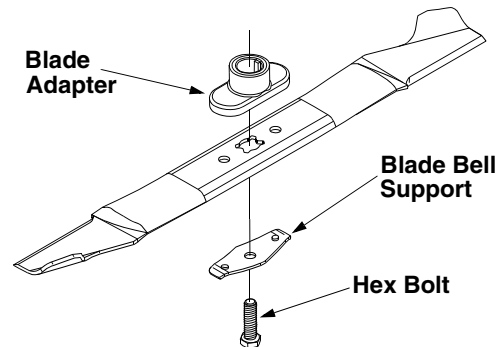

Figure 14
- Remove the bolt and the blade bell support which hold the blade and the blade adapter to the engine crankshaft. See Figure 14.
- Install the blade adapter on the crankshaft with the “star” away from the engine. See Figure 14. Place the blade with the side marked “bottom” (or with part number) facing away from the adapter. Align the blade bell support over the blade with the tabs in the holes of the blade and insert the hex bolt.